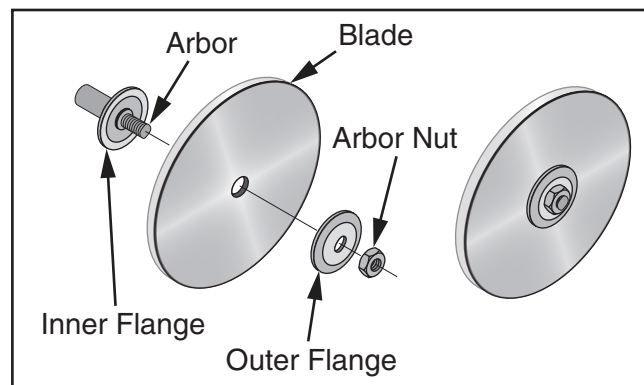

Figure 38. Correct order of blade installation.
6. Remove outer flange and blade from arbor (see **Figure 38**).
1. Place blade on arbor flush against inner flange, being sure blade arrows point toward front of saw (see **Figure 38**).
2. Place outer flange on arbor and turn it until it rests flush against blade (see **Figure 38**). Blade should spin freely without side-to-side movement on arbor.